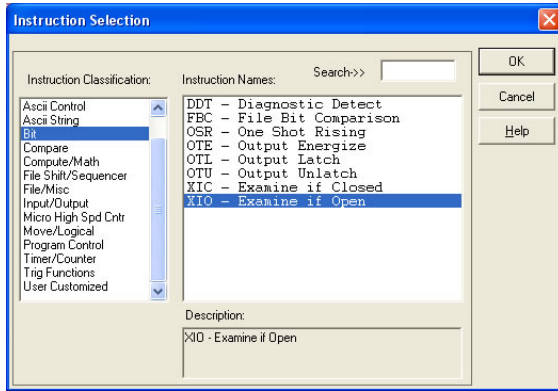

Figure 112: XIO Instruction Selection
- Select the “XIO” instruction from the “Bit” classification, then click OK. Refer to Figure 112.